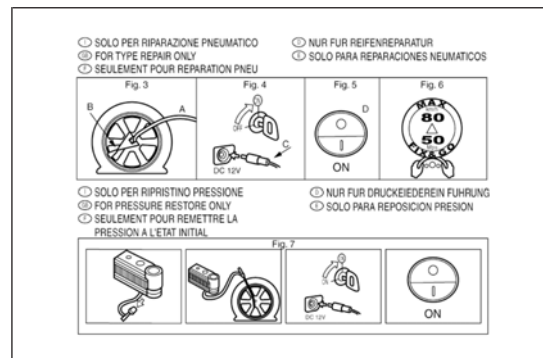

fig. 125
- ☐ an information leaflet fig. 125, providing instructions for using the kit correctly. This booklet should be given to the persons charged with handling the tyre treated with this kit;